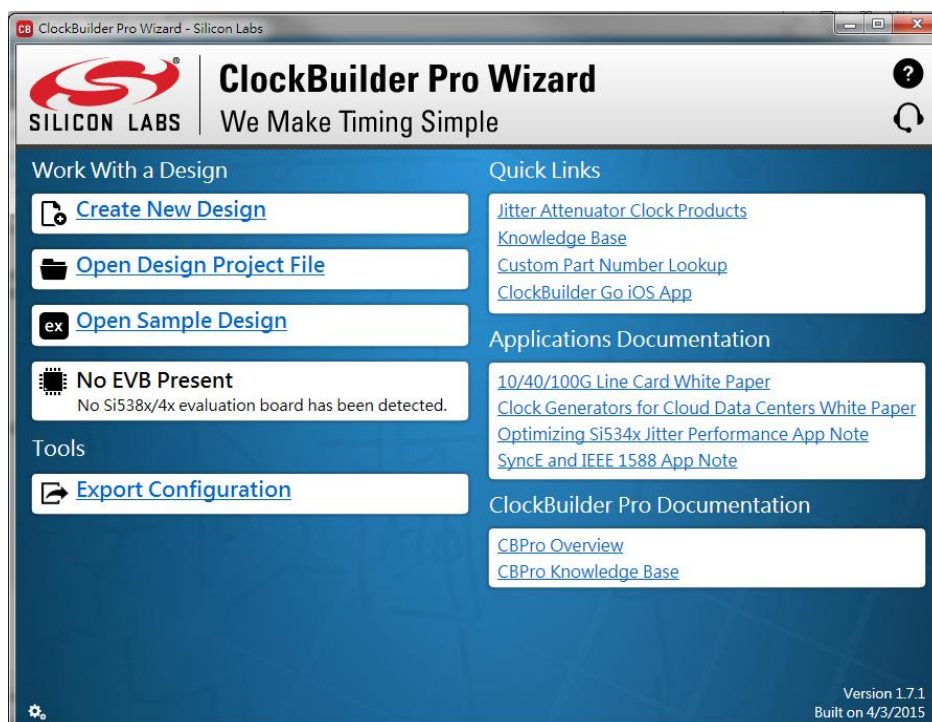

Figure 5-3 ClockBuilder Pro Wizard
1. Firstly, download ClockBuilder Pro Software (See **Figure 5-3**), which is provided by Silicon Labs. This tool can help users to set the Si5340A’s output frequency of each channel through the GUI interface, and it will automatically calculate the Register parameters required for each frequency. The tool download link: